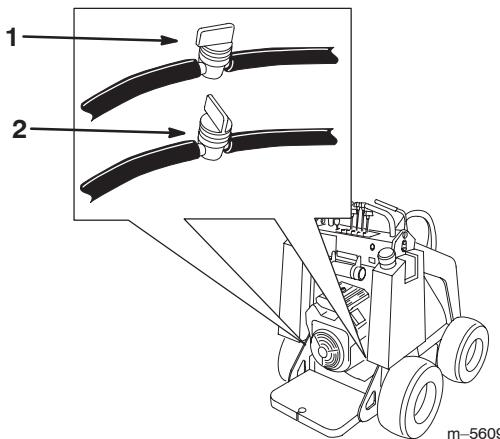

Figure 30
2. Shut off the fuel valve on the bottom of each fuel tank (Fig. 30).
8. Open the fuel valve in the hose near the bottom of each fuel tank as illustrated in Figure 30.